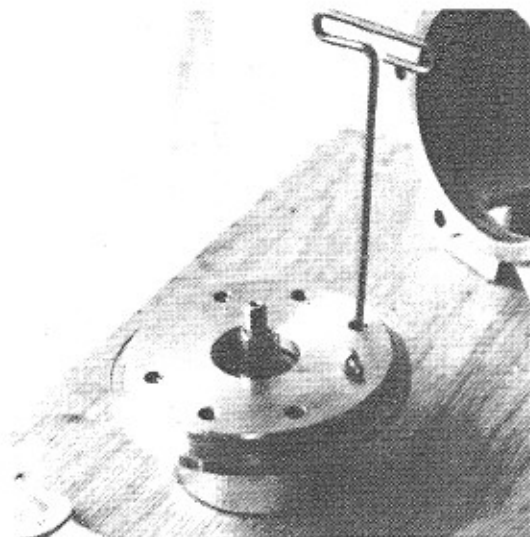

Figure 18
- F. Disconnect the hexagonal bolts (Part No. 4A) and remove the rear casing (Part No. 4) [Fig. 18].